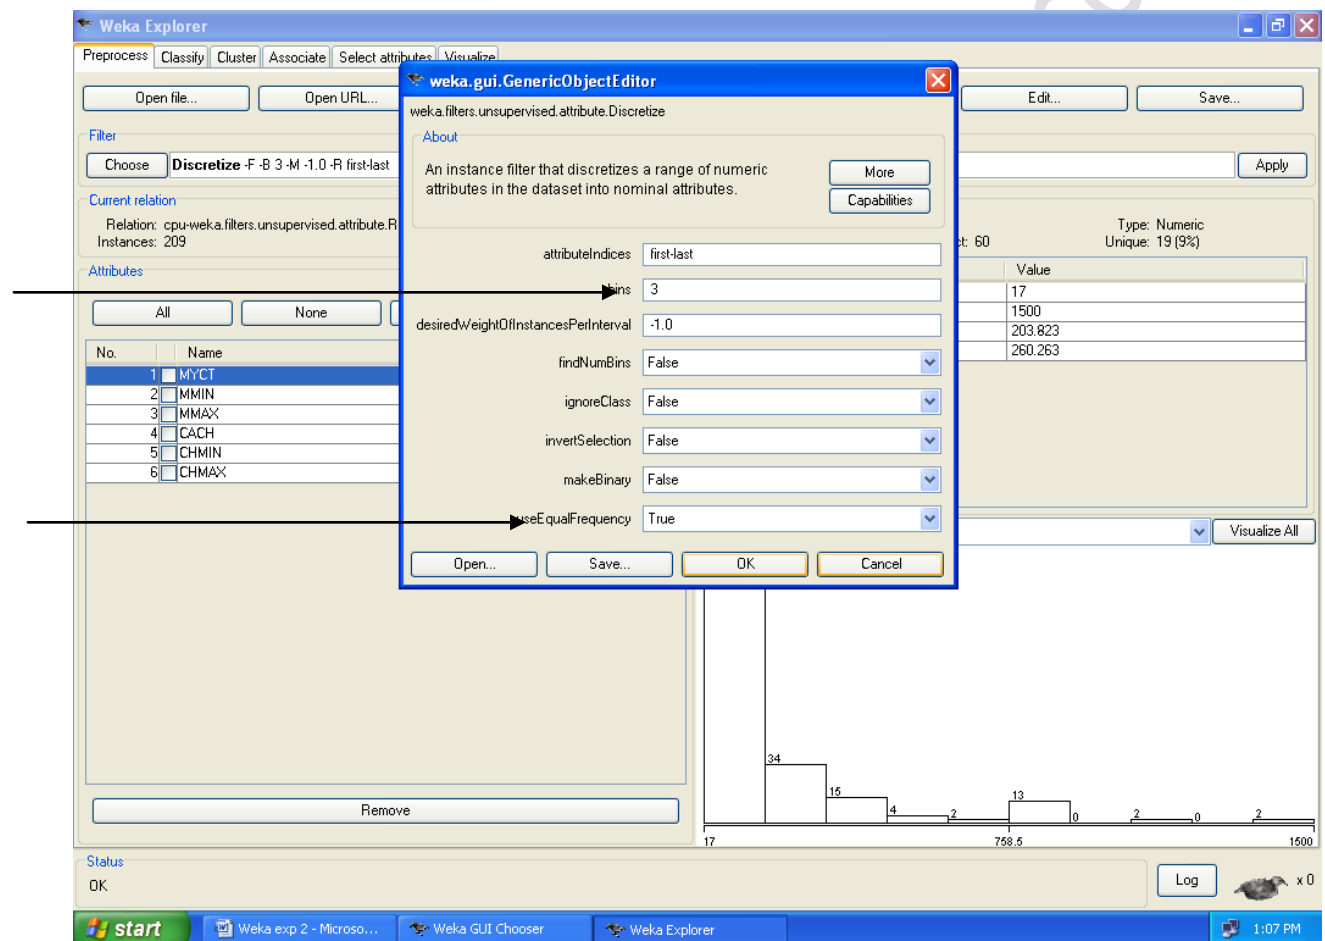

Figure-11
10. In the "GenericObjectEditor" change the bins value to either 2 or 3 or as our desire and make the "useEqualFrequency" option as "TRUE" and click on ok, which is as shown in the figure-11 as follows.